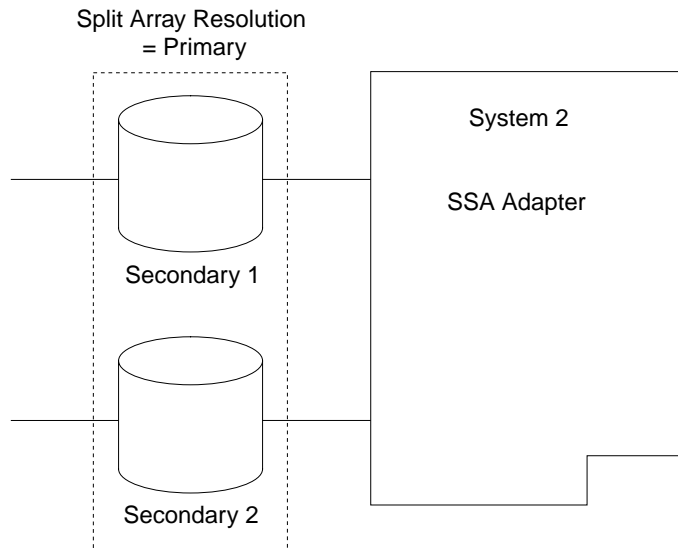

Figure 36. RAID-10 Failure of a Host System and a Primary Disk Drive
**RAID-10 Failure of a Host System and a Primary Disk Drive:** Figure 36 shows system 2 disconnected from system 1. The array is in the Offline state. If you set Split Array Resolution to **Secondary**, the array goes into the Good state.